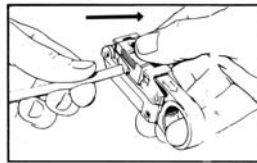

Figure 8
**G. Moves lide back one position.** Then pull cable out carefully while squeezing tool (Fig. 8). If there is too much resistance or strip is imperfect, go to step "H".